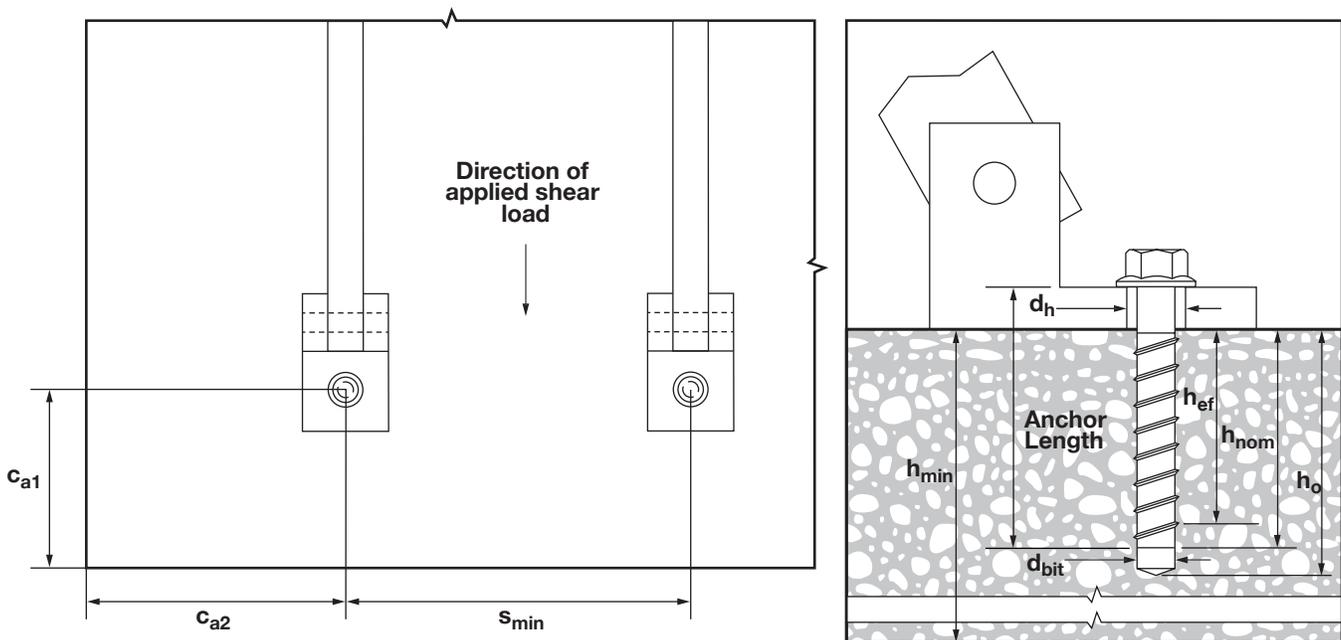

Figure 1 — Illustration of KWIK HUS installation parameters for reuse.
- 1 See Figure 1 for installation parameters intended for re-used KH measured with HRG.